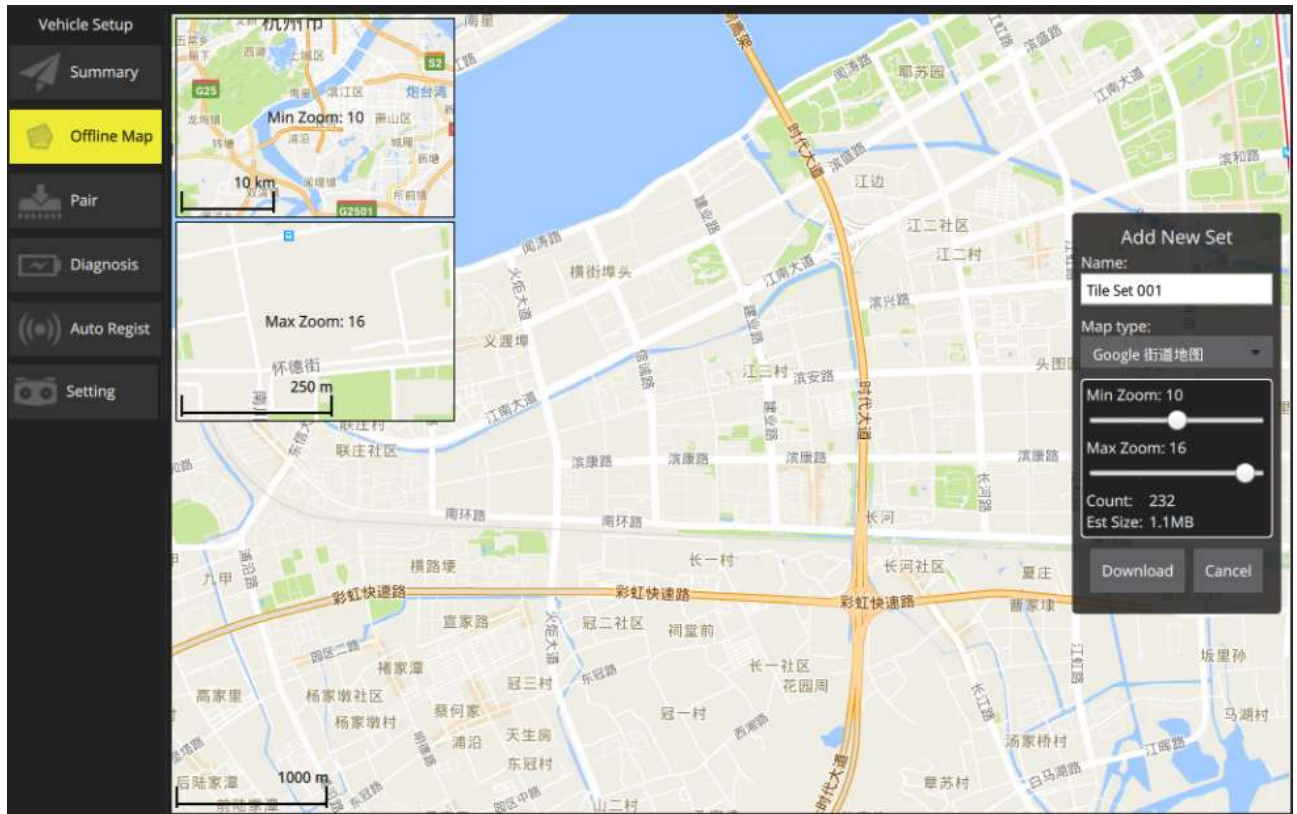

Figure 6-9
- Step 1 Select "Aircraft Settings > Offline Map > Add New Set". The system will display the interface of "Offline Map", as shown in Figure 6-9.